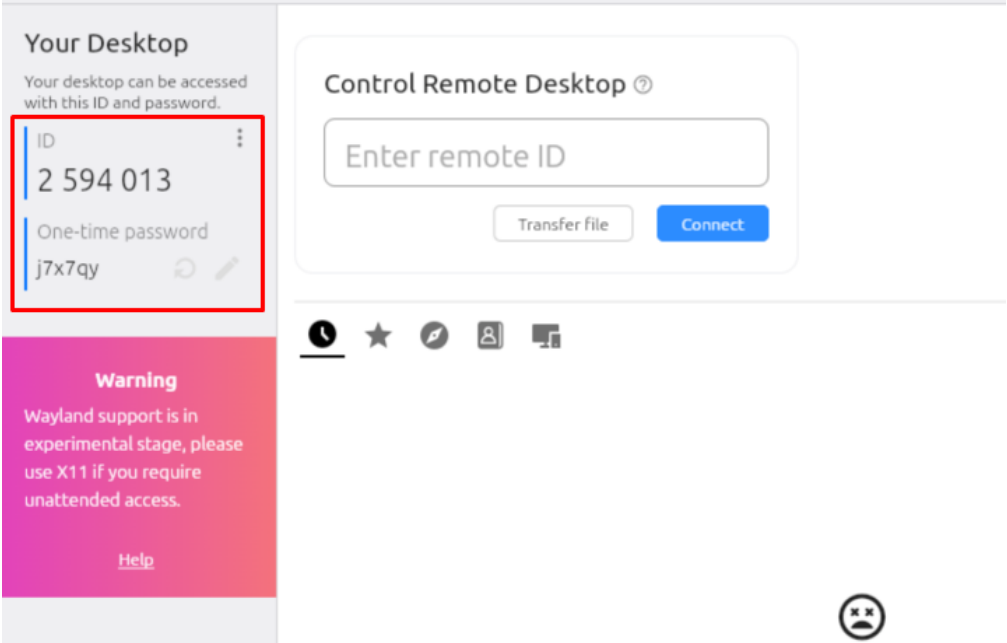

FIGURE 8-2 - RUSTDESK APP
3. Provide Sentispec personnel with (Figure 8-2 - RustDesk app):